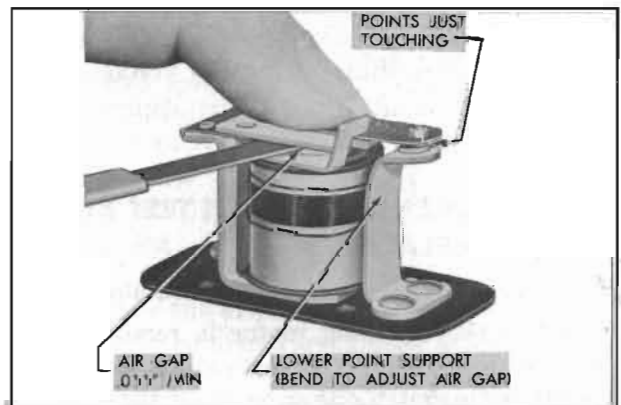

Figure 10-50—Relay Air Gap Adjustment
2. Push relay armature down until contact points just touch, then check air gap between armature and core with feeler gauges. Air gap should be .011" minimum and may be adjusted, if necessary, by bending the lower point support. See figure 10-50.